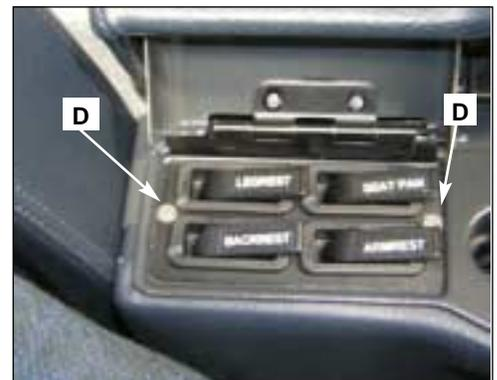

FIG. 305D:
- (5) Free manual release assy from the upper endbay by means of two attaching screws (D) (see fig. 305D). Without disconnecting manual cables, incline manual release assy slightly so to permit passing through its housing.